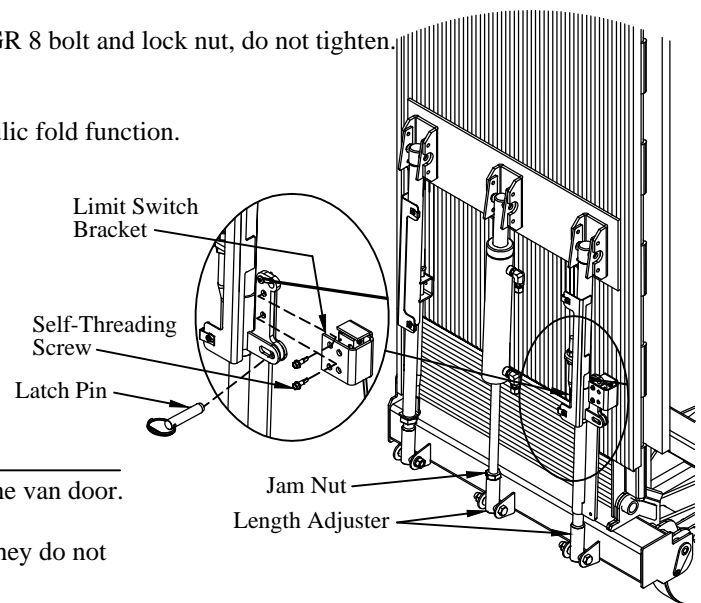

Figure 16: Platform latch and adjustment.
- 4. Install** the limit switch bracket on the passenger side support arm with two (2) #12 self-threading screws. See Figure 14 for bracket shipping location. Make sure that the limit switch is not in the pushed position (Figure 16).
- 3. Support** the platform to keep it from falling or hitting the van in the next steps (Figure 16).